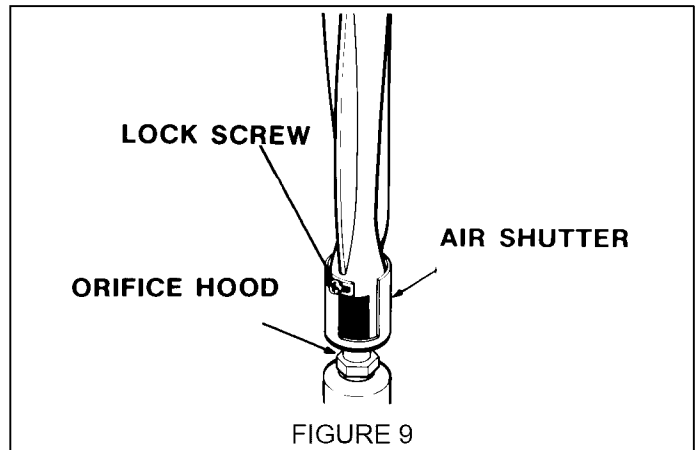

FIGURE 9
1. Yellow flame on burner - open air shutter to the widest opening that will not cause the flame to lift or blow off the burner when cold. (See figure 9).
2. Distinct blue flame but lifting - close burner air shutter to the point where it will not cause the flame to lift or blow off the burner when cold. (See figure 9).